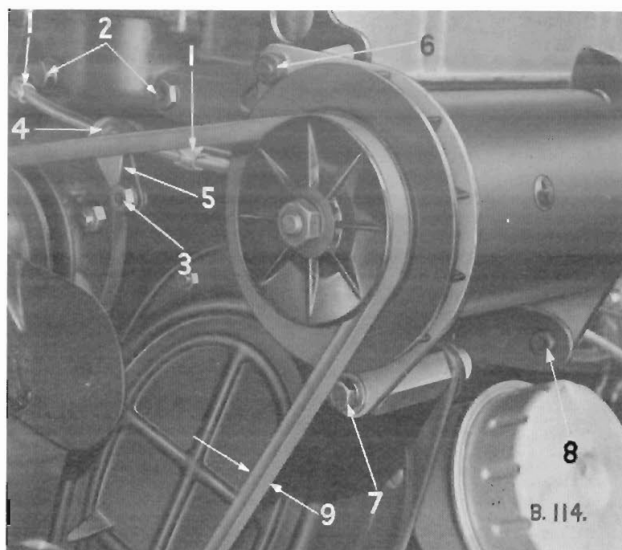

Fig. 22. Fan belt adjustment
**Fan Belt Tension (Fig. 22)**